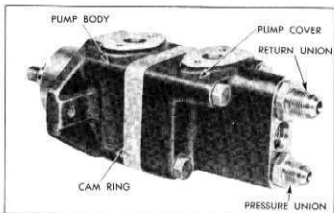

Fig. 25—Pump Assembly
2. Remove four reservoir to pump mounting screws and remove reservoir with cork gaskets and spacers from pump assembly. Figure 25 shows the pump assembly.